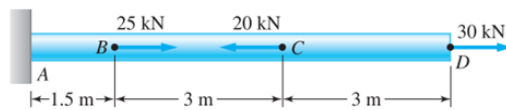

Figure 1
- b) The cross-sectional area of bar ABCD is 600 mm^2 (Figure 1). Determine the maximum normal stress in the bar. [7M]